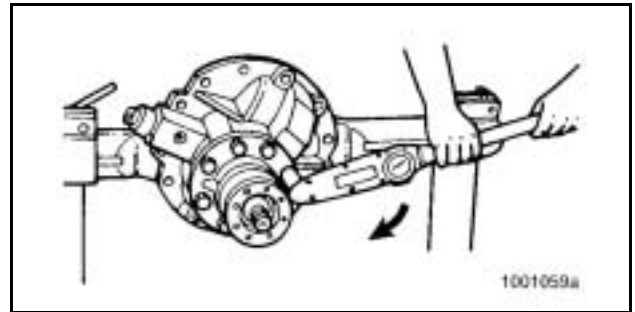

Figure 77
6. Install the bearing cage to carrier capscrews and washers. Tighten capscrews to correct torque value. Refer to **Table J. Figure 77.**